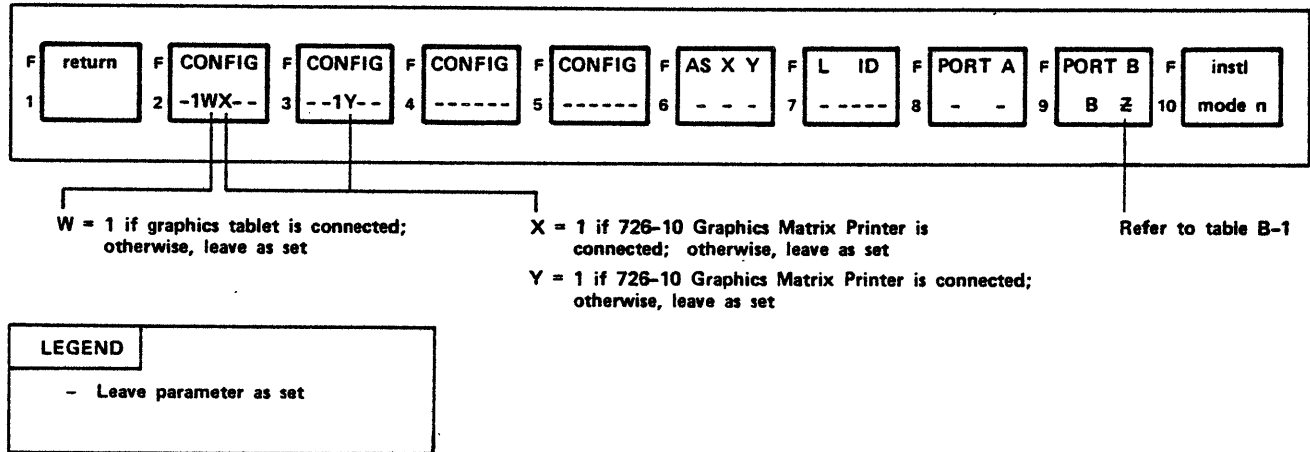

Figure B-3. Terminal Installation Parameters
4. While pressing the CTRL key, press the SETUP key. Parameters appear at bottom of screen, with a blinking cursor in the first character position of the F2 CONFIG box (figure B-3):
5. Set the terminal installation parameters in the F2, F3, and F9 boxes by entering the desired W, X, Y, and Z settings on the lower line inside these boxes (refer to figure B-3). All settings indicated by a hyphen (-) within the boxes in figure B-3 do not apply to graphics firmware operation and should be left as they appear on the display screen. The cursor automatically advances from left to right as parameters are entered; pressing the space bar advances the cursor without affecting the settings.